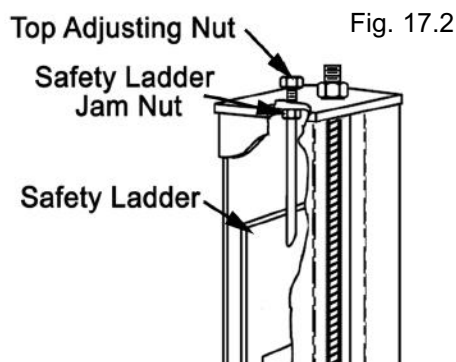

Fig. 17.2
10. To complete the leveling procedures, lock each safety ladder jam nut tightly against bottom of column top plate. (See Fig. 17.2)